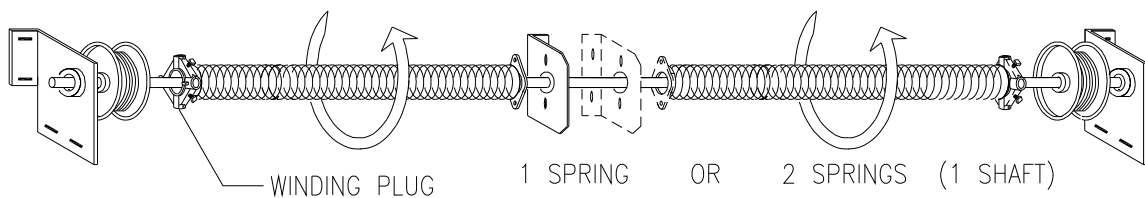

Figure 10
4.1. 1 SPRING OR 2 SPRINGS (1 shaft, 1 or 2 intermediate bracket(s)) (Figure 10)
- Lay the spring assembly on the floor, in front of the opening, with the winding plug to the left. If the assembly consists of two (2) springs, the second spring (right) is mounted with the winding plug on the right. The two stationary plugs are attached to the same intermediate bracket.